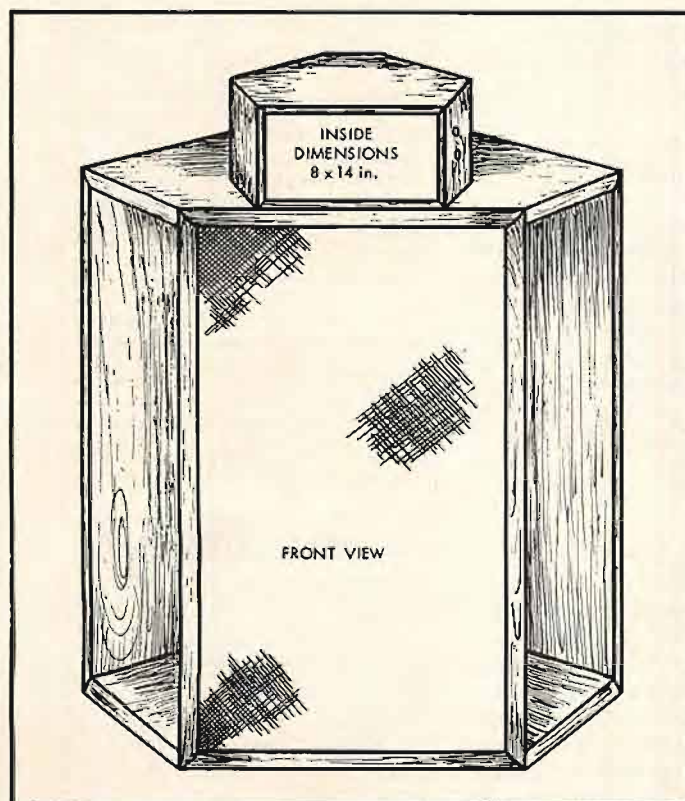

Fig. 6. Second corner horn type must be supplemented by mid- and high-frequency speakers; small box on top accommodates both.
24. Make the small compartment on the top of the cabinet to place the M.F. and H.F. units, the two crossover networks, and the equalizer, and to mount the two controls outside, as shown in Fig. 6.